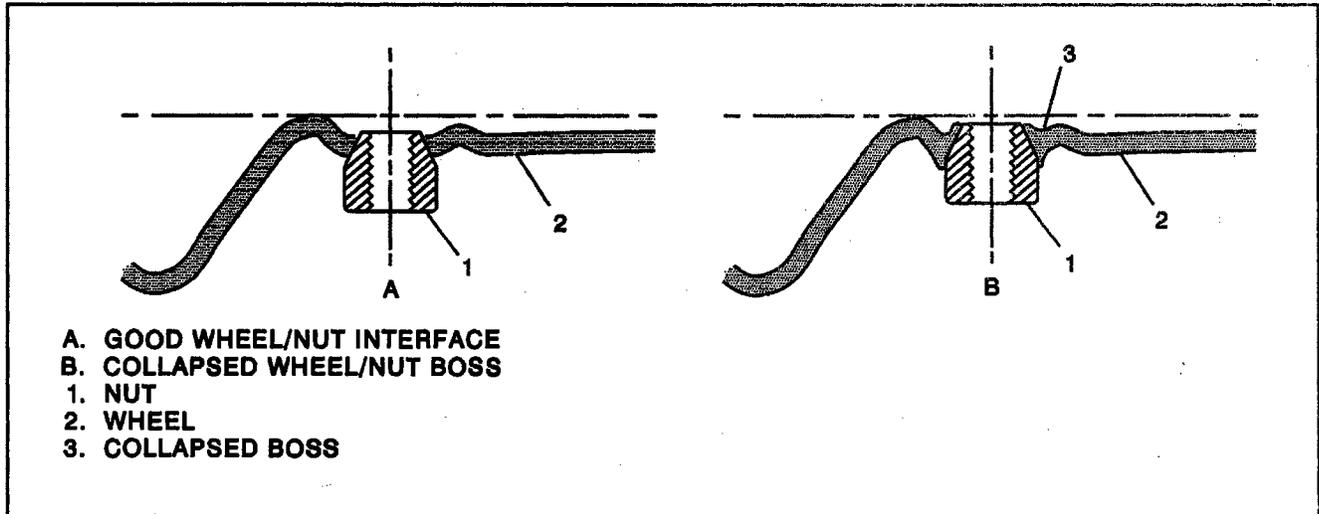

Figure 4—Checking Wheel/Nut Boss
- D. Check mounting wheel/nut holes for damage that can be caused from over torquing the lug nuts. Look for collapsed wheel/nut bosses or cracked bosses (Figure 4).